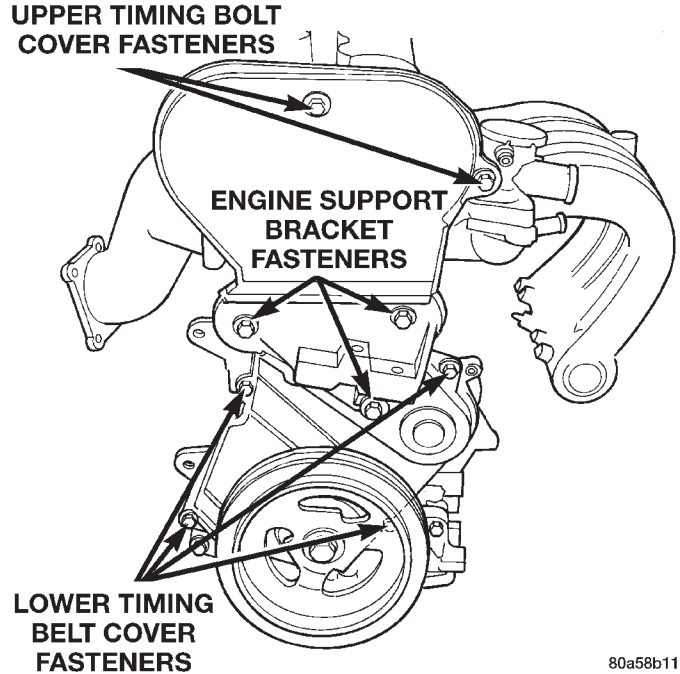

Fig. 58 Timing Belt Covers
- (1) Raise vehicle on hoist. Remove right front wheel.
- (2) Remove right inner splash shield.
- (3) Remove accessory drive belts. Refer to Group 7, Cooling System.
- (4) Remove crankshaft damper bolt, and remove damper. Refer to Removal and Installation procedure in this section.
- (5) Remove generator belt idler pulley.
- (6) Remove lower timing belt cover fasteners and remove cover (Fig. 58).
- (7) Lower vehicle and remove upper timing belt cover fasteners and remove cover.